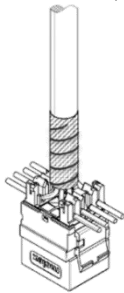
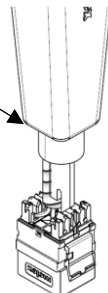
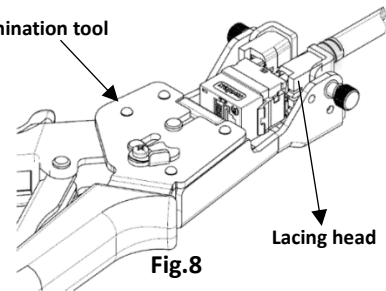

Fig.6
Fig.7
Fig.8
2. Untwist cable pairs and place the cables as per wiring map (Fig.6) and punch down wires to corresponding jack IDC contacts with 110 punch down tool (Fig.7). Molex also recommends 4-Pair Termination Tool (Fig.8) using Lacing head for termination.